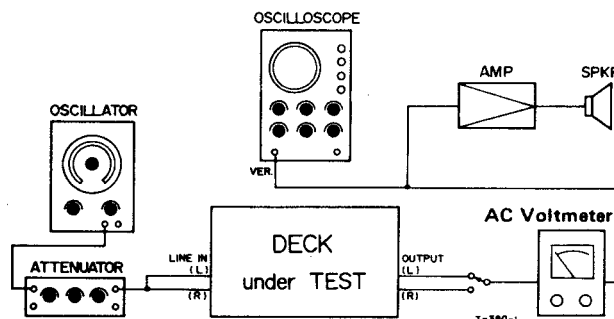

Fig. 6-10 Connection
1. Connect the deck and the test equipments as shown in Fig. 6-10 on page 20.
1. Connect the deck and the test equipments as shown in Fig. 6-10.